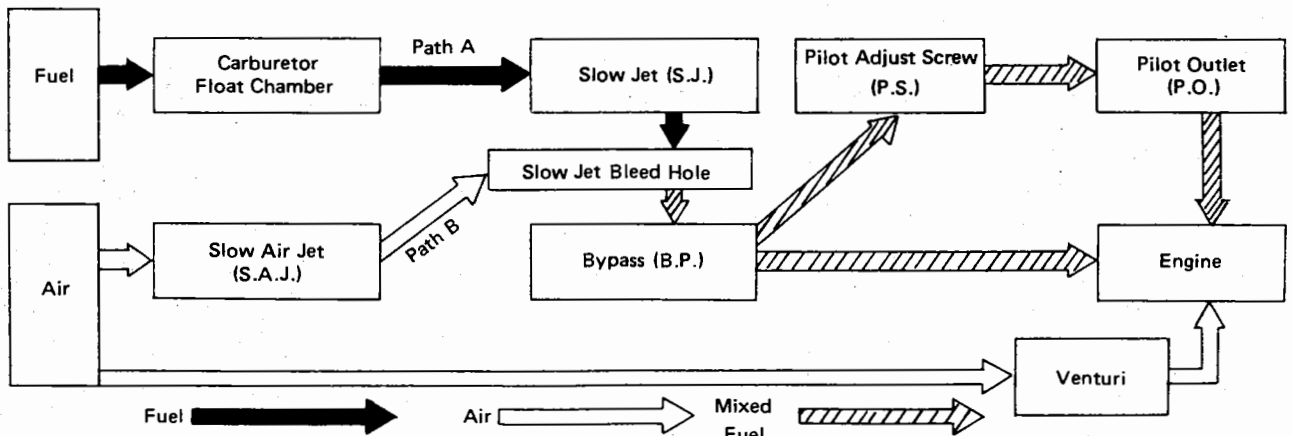
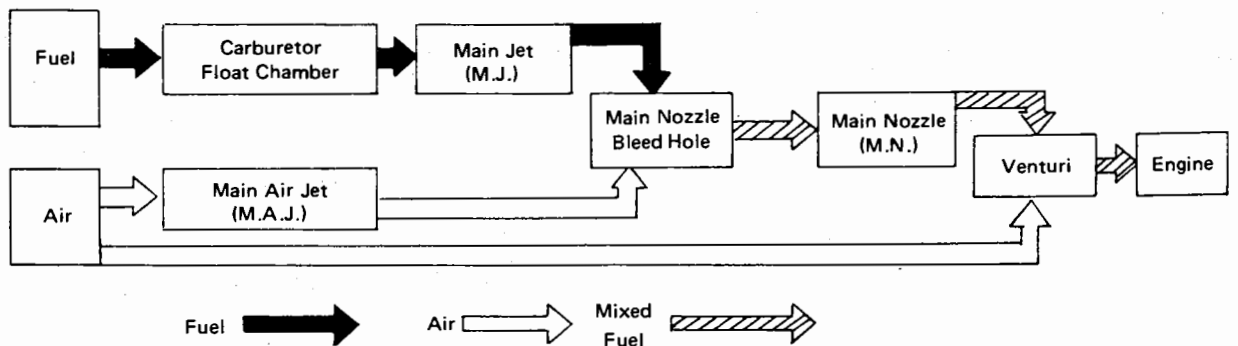
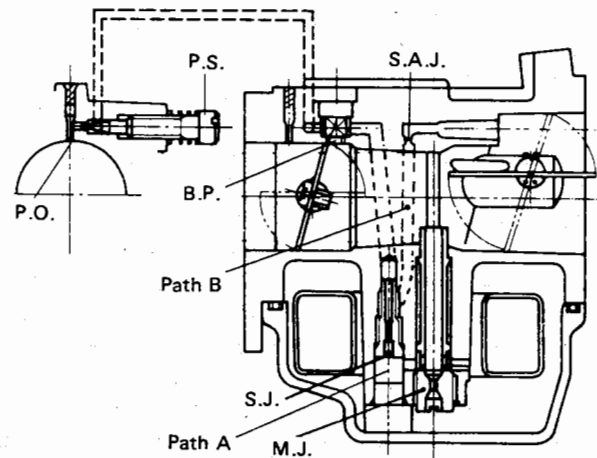
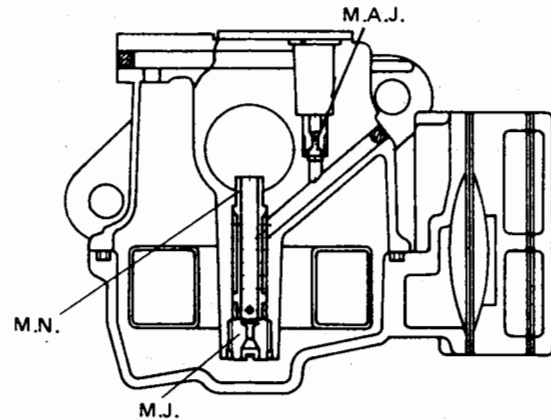

Fig.17.5
Fig.17.6
Fig.17.7
Fig.17.8
1. Pilot line (Fig.17.5 to Fig.17.7)
2. Main line (Fig.17.6, Fig.17.7 and Fig.17.8)